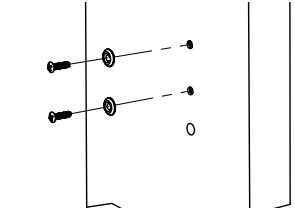

Figure 33
2. Install mounting screws and washers for the adapter plate. (Figure 33)